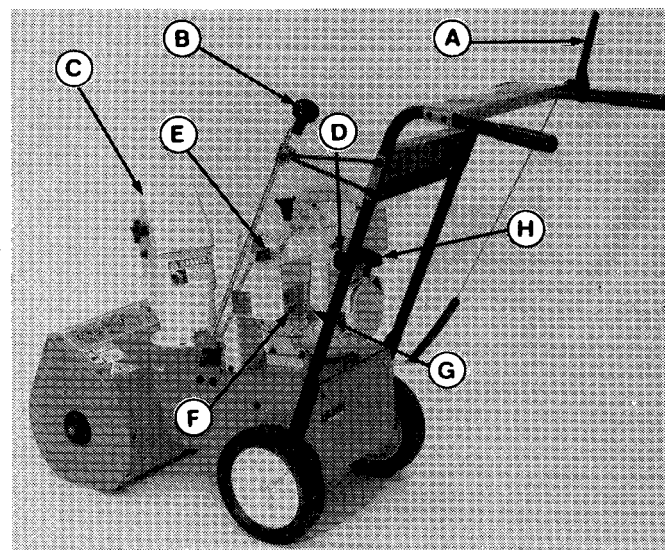

Figure 1. Controls
1. Rotate ignition switch key (F, figure 1) clockwise to ON position.
2. Move throttle control lever (G, figure 1) to FAST position.
3. Move choke knob (E, figure 1) to FULL CHOKE position. Do not choke a warm engine.
4. Push primer button (D, figure 1) two times. Do not prime a warm engine.
5. Pull starter handle (H, figure 1) rapidly or push starter button if equipped. Do not allow starter handle to snap back. Allow starter rope to rewind slowly while keeping a firm hold of starter handle.
2. Using the chute control rod (B, figure 1), position the discharge chute so as to discharge the snow with the wind.